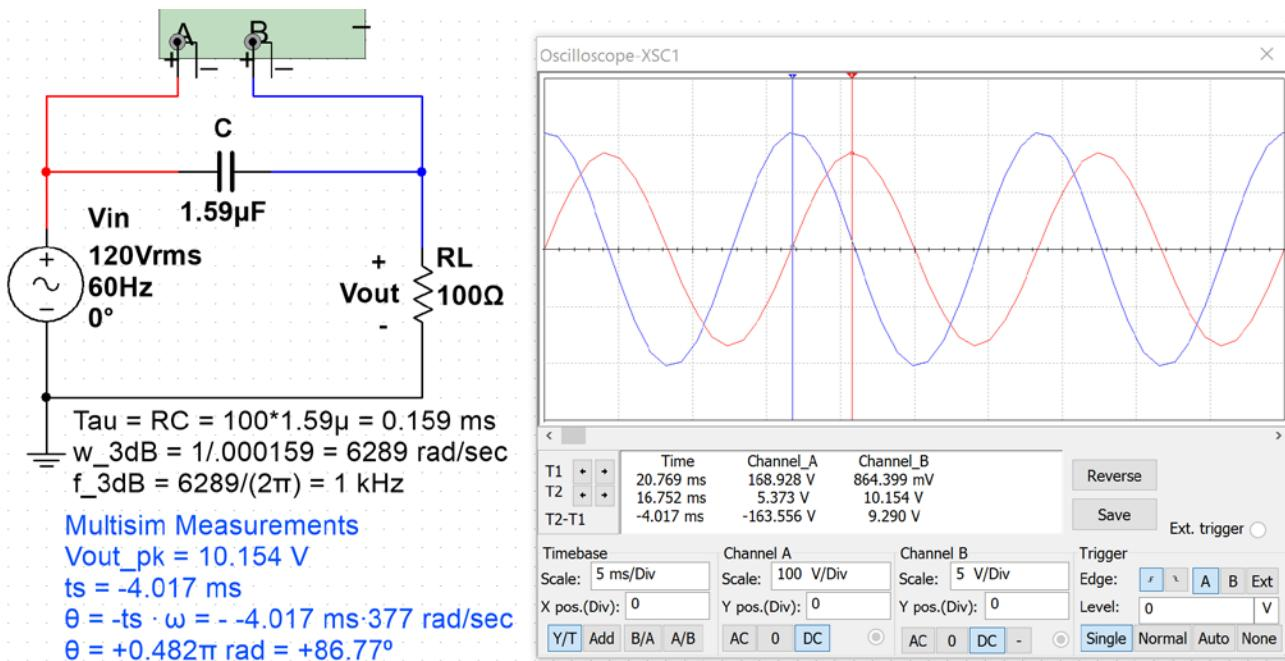

Figure 4.10: Multisim oscilloscope verification of Bode plot and calculated results of Example 4.2.
Using the Bode plot to determine the output signal is much easier than solving the problem algebraically. The following steps show how to solve this problem and the values are verified in the Multisim scope plot in Figure 4.10. The problem solving technique shown below is the same process that was performed in Section 3.2 - Series RLC Circuits. The Blue Font shows the Multisim measurements. Notice that they closely match the calculations.
- $Z_{Total} = RL - j X_C = 100 - j 1668.3 \quad Z_{Total} = 1671.3 \angle -86.57^\circ \Omega$  (ICE) (Notice:  $V_{RL}$  leads  $V_{in}$  in Figure 4.10)